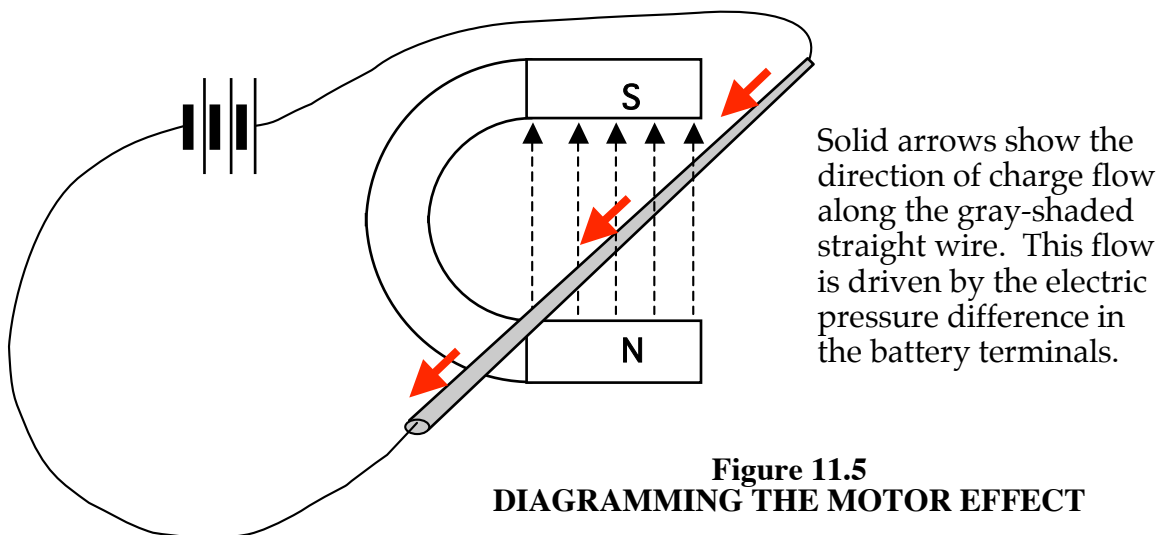

Figure 11.5
Figure 11.5 illustrates the magnetic field pattern in the space between these magnets, which is similar to the magnetic field pattern inside the Genecon motor. Dotted arrows show the nearly uniform directions of this magnetic field everywhere in the space between the two magnets.
11.6 Activity: Observing the motor effect using the apparatus in Figure 11.5